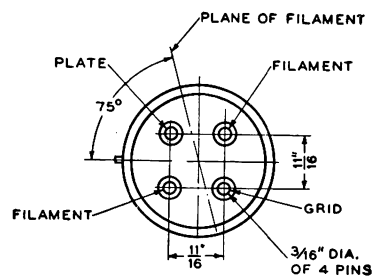

FIG. 2
**Mounting**—Large four-pin bayonet base for use in a W. E. 112A or similar socket, for either vertical or horizontal mounting. If mounted horizontally the plane of the filament, which is indicated in Figure 2, should be vertical.